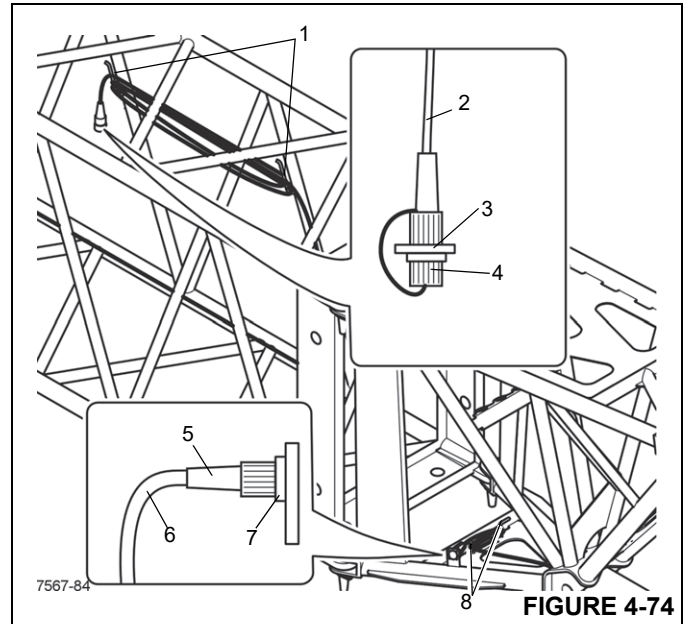

FIGURE 4-74
1. Remove the bridging plug (5) (Figure 4-74) from the socket (3) and plug it into the dummy socket (7).
2. Wind the cable (6) on to the holder (8).
3. Install the protective cap on the socket (3).
4. Wind the cable (2) onto the holder (1).